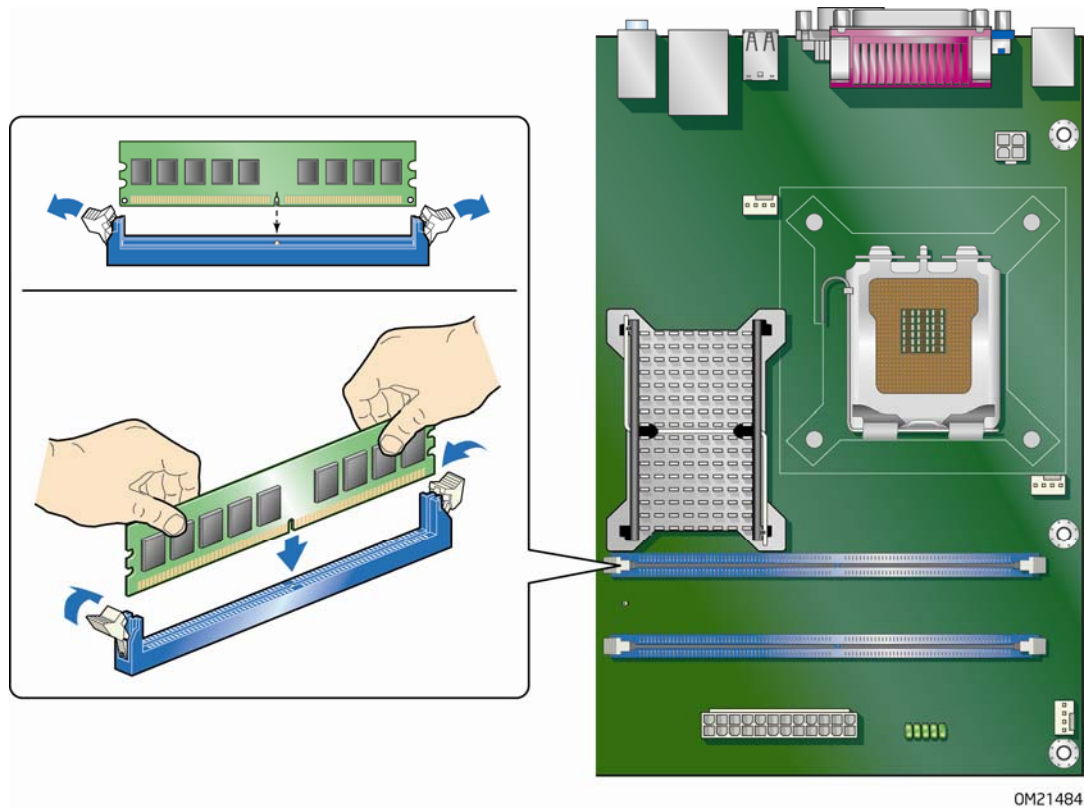

Figure 16. Installing a DIMM
3. Remove the computer's cover and locate the DIMM sockets (see Figure 16).
6. Position the DIMM above the socket. Align the small notch at the bottom edge of the DIMM with the keys in the socket (see inset in Figure 16).